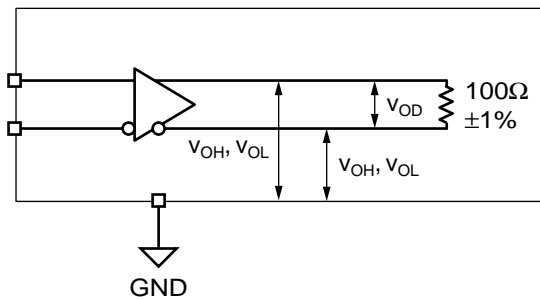

Figure 3. LVDS Differential Measurement
**Note 8.** Measured as per Figure 3,  $100\Omega$  across Q and /Q outputs.